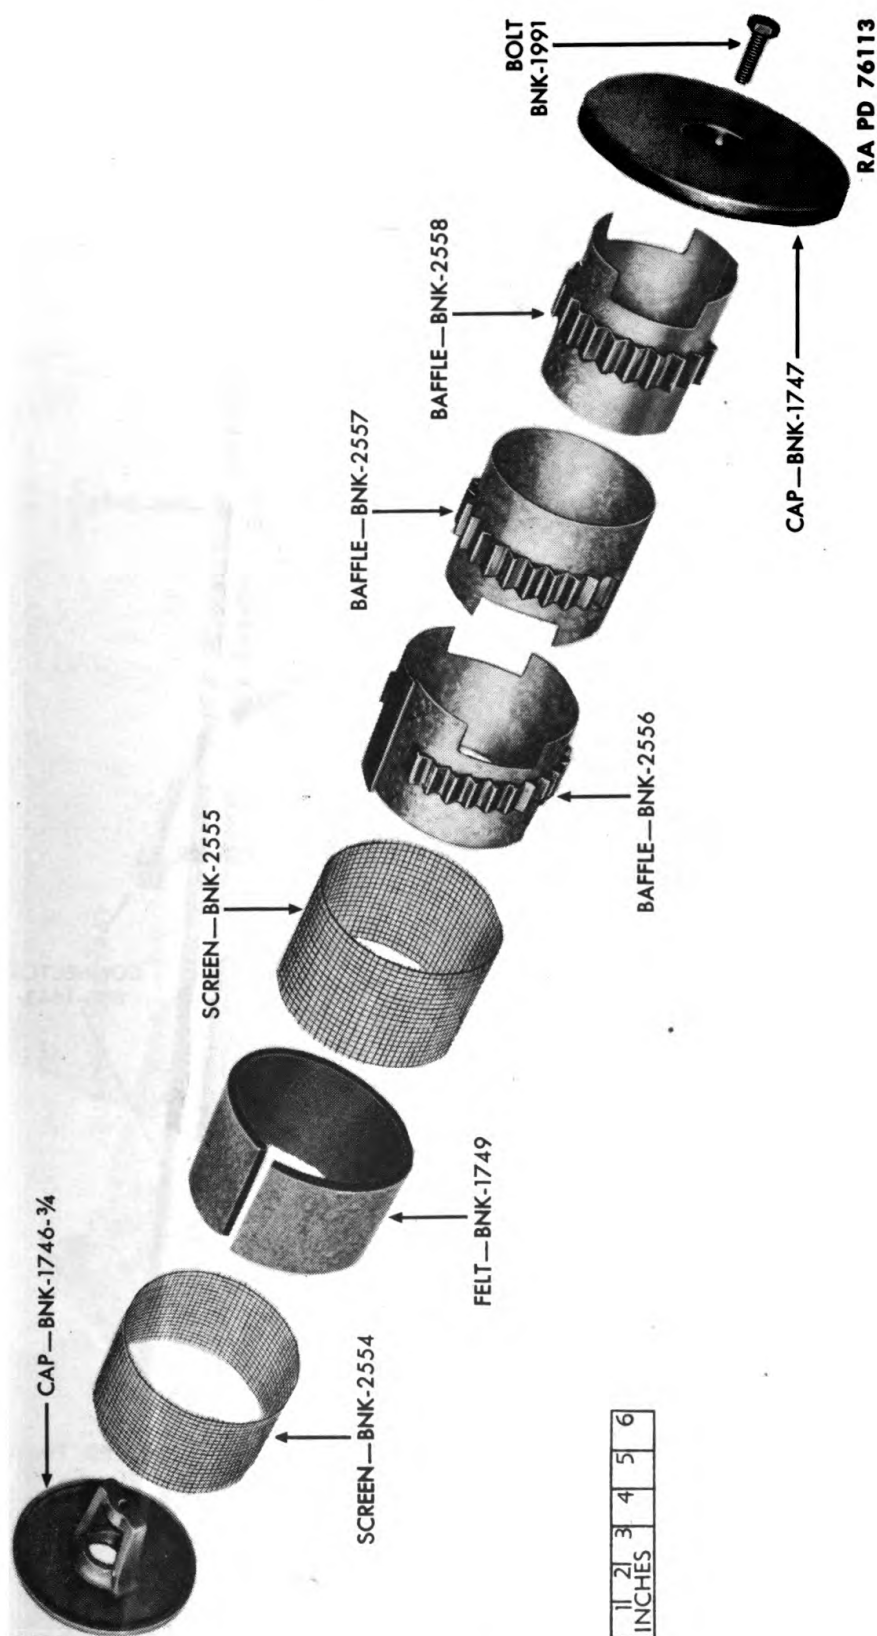

Figure 124 — Components of Air Filter for Air Compressor
(3) Disassemble the air filter as shown in figure 124 by first removing the bolt and pulling the components apart.